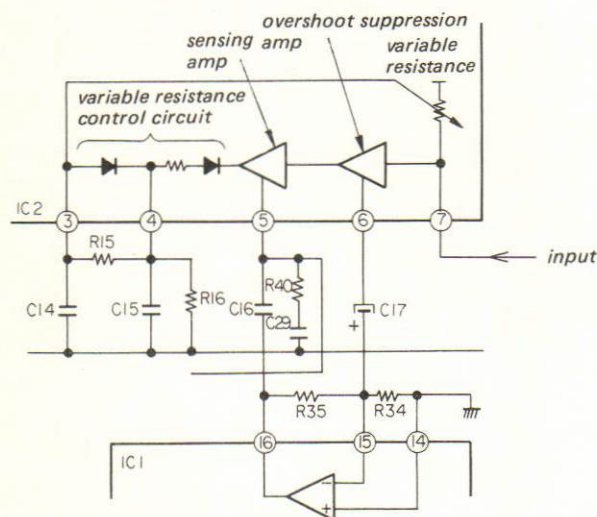

Fig. 9 (L-CH)
2) Low-Level Stage (Refer to Fig. 9)